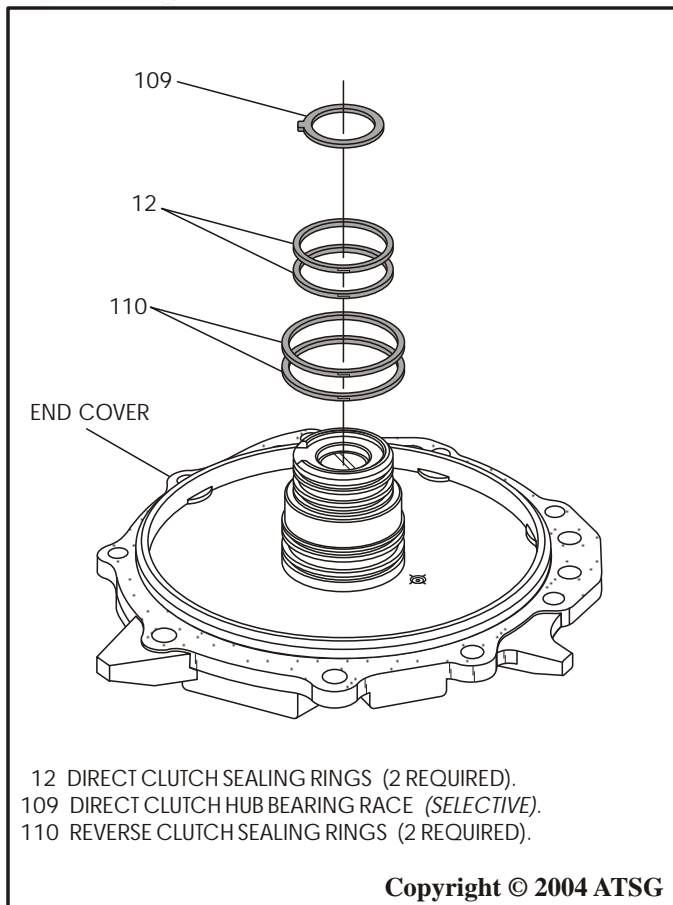

Figure 27
12. Remove the direct clutch hub bearing race from the end cover, as shown in Figure 27.
13. Remove and discard the direct and reverse clutch sealing rings, as shown in Figure 27.